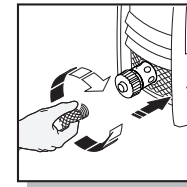

fig. 8
- Screw your garden hose on to the garden hose attachment on the front of the machine (fig. 8).